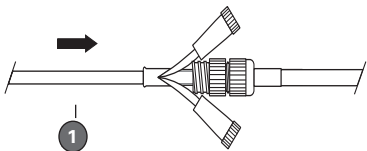

Fig. 4
11. Advance the stent positioner over the wire guide and up to the Peel-Away stent loader. Maintaining the Peel-Away stent loader assembly **firmly** against the end of the introducer sheath, advance the stent positioner through the Peel-Away stent loader, pushing the stent inside the stent introducer sheath. (Fig. 4)